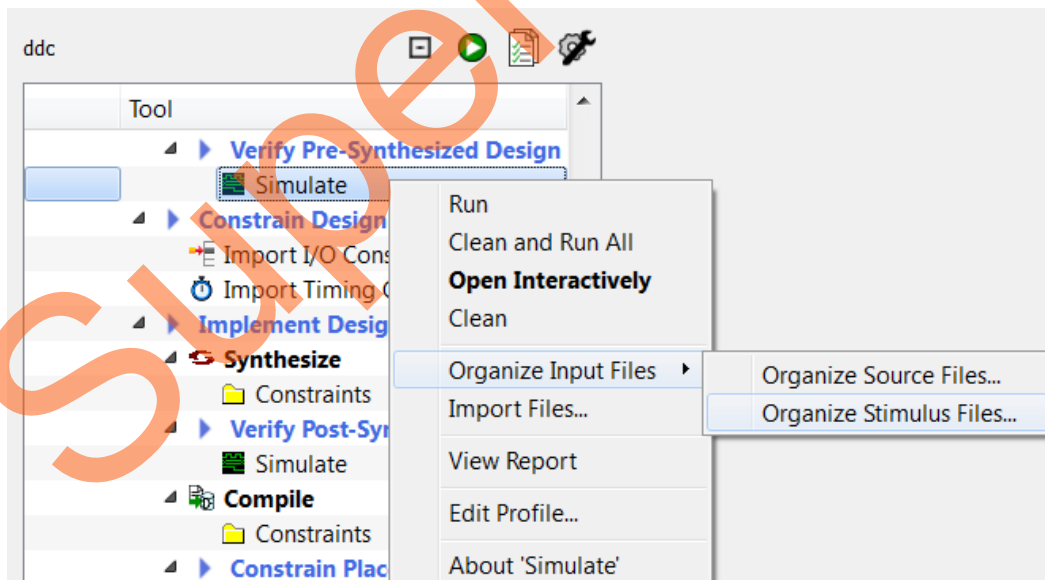
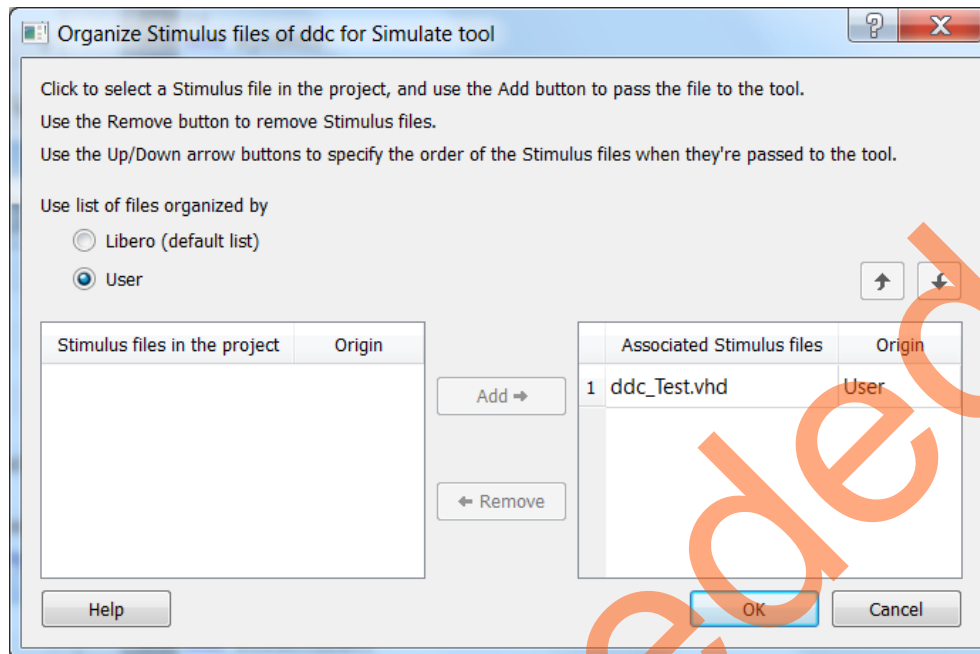
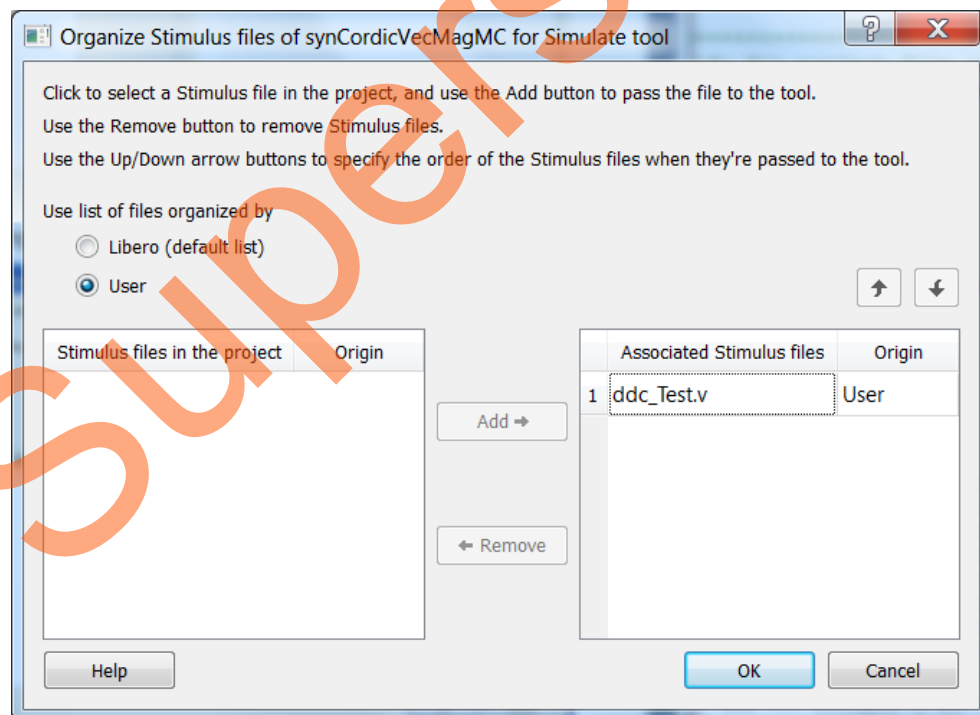

Figure 21. Organize Stimulus File
Figure 22. Organize Stimulus Dialog Box for VHDL
Figure 23. Organize Stimulus Dialog Box for Verilog
2. Under **Verify Pre-synthesized Design**, right-click **Simulate** and select **Organize Input files > Organize Stimulus Files**, as shown in Figure 21. The **Organize Stimulus** dialog box is displayed, as shown in Figure 22.
3. Select **User** option to add the stimulus file under **Associated Stimulus Files**, as shown in Figure 22 for VHDL flow and Figure 23 for Verilog flow.